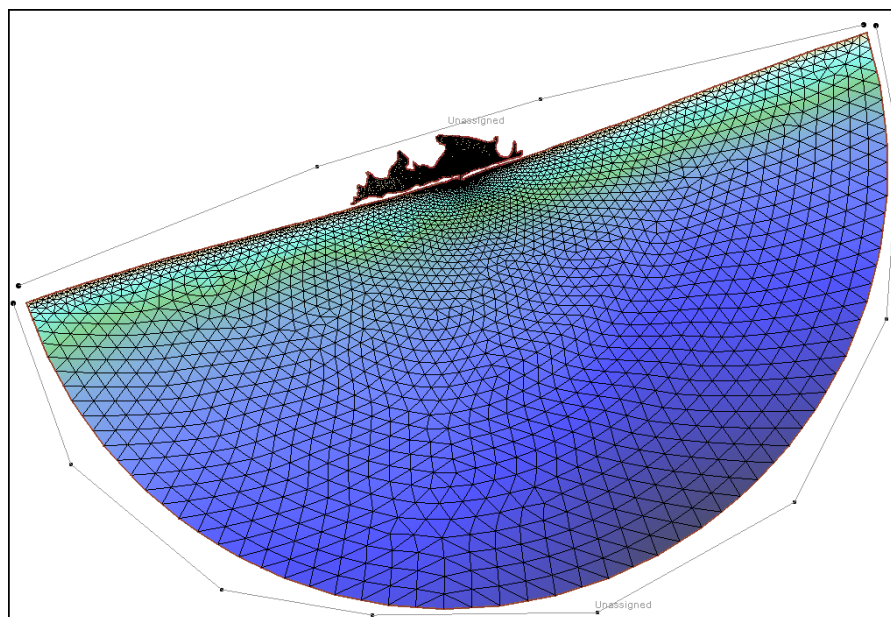

Figure 2 Digitized boundary condition arcs (lines) labeled “Unassigned”
5. Using the **Create Feature Arc**  tool, create an arc around the ocean portion with about 6–8 points. (Figure 2)
6. Using the **Create Feature Arc**  tool, create an arc along the coastline portion with about 3–5 points. (Figure 2)
The arcs should appear similar to Figure 2